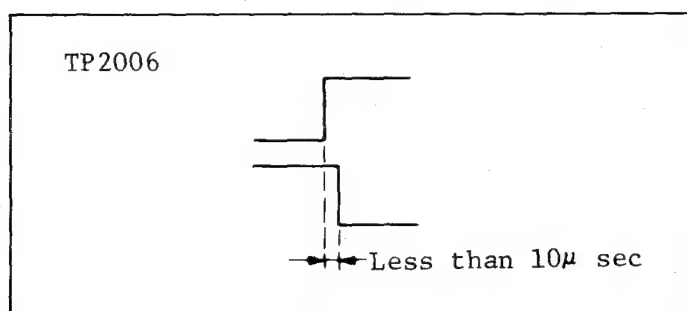

Fig. E8
6. Then adjust PG 1 (R2118) on the servo board so that the difference between the rising edge and trailing edge is as shown Fig.E8. Change the slope selector on the scope the either  $\pm$  (plus) or - (minus) and adjust for less than  $10\mu\text{sec}$ .